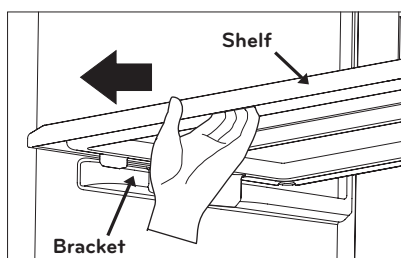

Fig. 9
1. Pull the shelf from the front Fig 9.